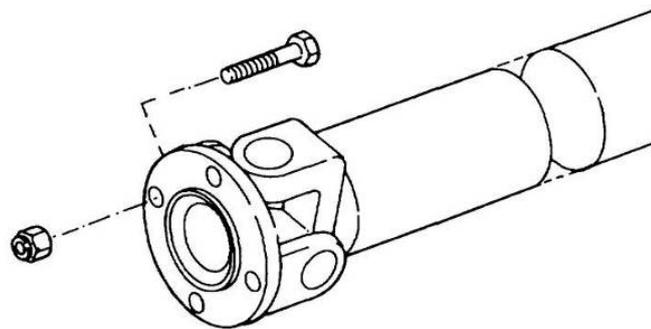

Figure 96 Removal of the Intermediate Axle Flange to Propeller Shaft
- c. Remove and discard the four bolts and locknuts securing the intermediate propeller shaft flange to the intermediate axle (Figure 96) and lower the propeller shaft.